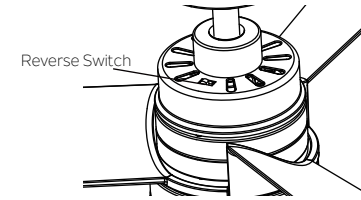

Fig. 25
3. Reverse Switch: Controls direction, forward or reverse.(Fig.25)